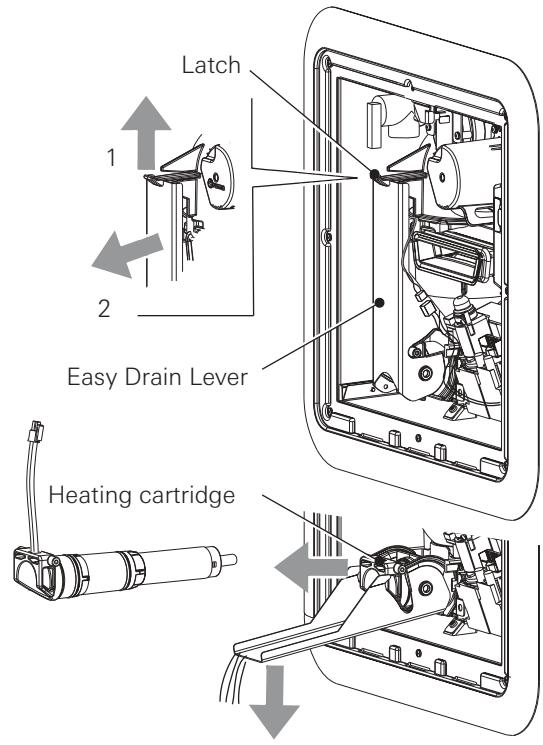

Fig. 11a
- Remove the heating cartridge as shown in Fig. 11a and rinse it with clean water.